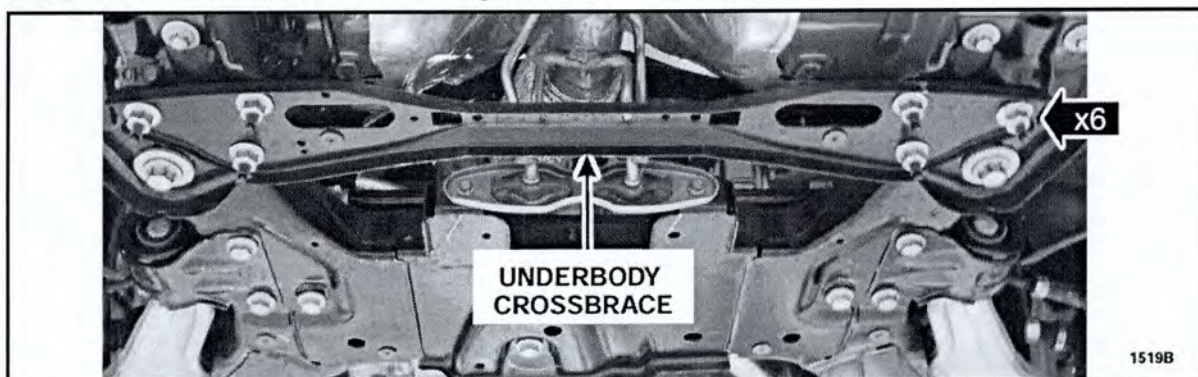

FIGURE 2
3. Remove the six nuts and the underbody crossbrace. See Figure 2.
1. *Install the underbody crossbrace and the six nuts. See Figure 2.*